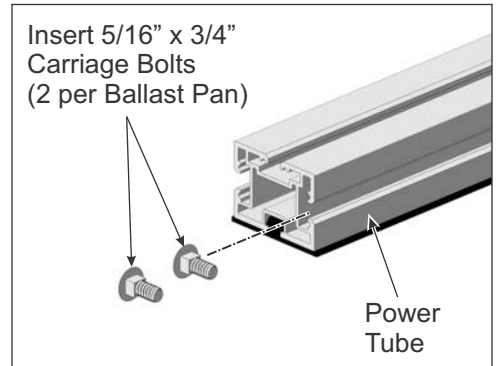

Figure 1-1: Pre-loading Carriage Bolts into the Power Tube
- A. Insert two of the 5/16" x 3/4" carriage bolts into the channel of the Power Tube. Be careful to properly position and orient the Power Tube. (See Figure 1-1)